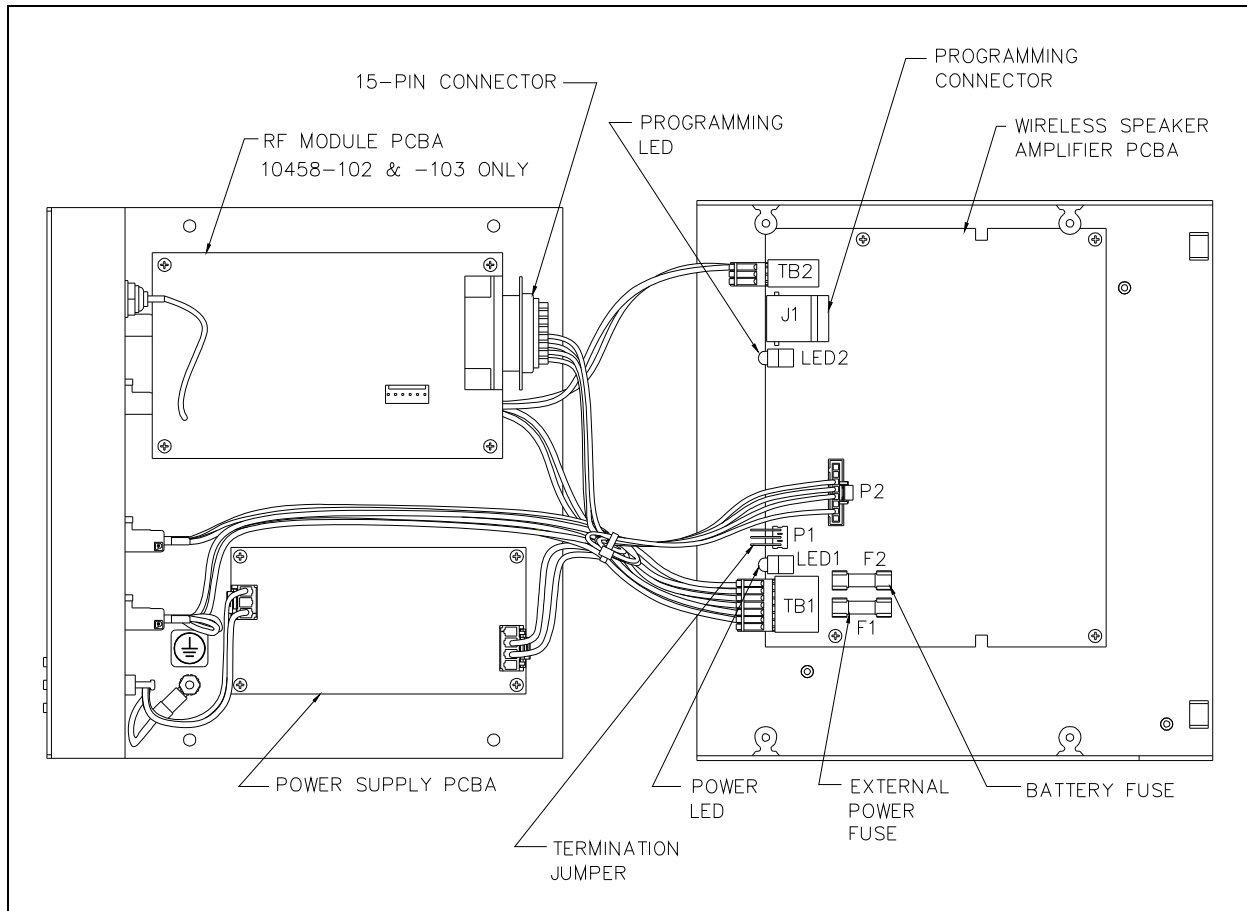

Figure 3. Electronics Paging Module (opened)
- Carefully open the chassis, keeping the U-bracket to the right. The Speaker Amplifier PCBA is mounted on the U-bracket and is where the settings and adjustments exist. Refer to Figure 3.
For hardwired installations the paging module contains a jumper to terminate the audio line cable. Jumper P1 on the speaker amplifier PCBA configures the unit for 600-ohm or 15k-ohm line termination. Shorting pins 1 and 2 set the line termination to 15k ohms (default setting). Shorting pins 2 and 3 set the line termination to 600 ohms. The settings options are labeled next to the jumper on the PCBA. See Figure 3 for location of P1.
Two LED indicators are located on the speaker amplifier PCBA, but are visible only when the module is opened. The Power LED is activated when the unit is powered. The Programming LED indicates when the unit is properly connected to a programming computer using CARD Suite Programming Software. Refer to Figure 3 for LED locations.
2. After opening the paging module (as previously described), plug the programming cable into the programming connector J1 on the speaker amplifier PCBA. Refer to Figure 3.